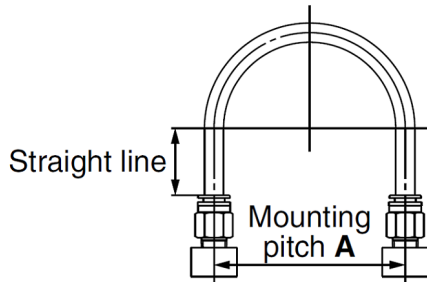

Fig. 1 Recommended piping
(1) When connecting piping to the One-touch fitting, use pipe length with sufficient margin, in accordance with the piping conditions shown in Fig. 1.